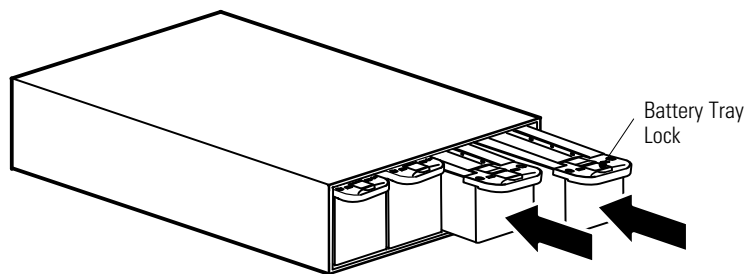

Figure 12. Installing the Battery Trays
3. Slide the battery trays into the cabinet (see Figure 12). Push each tray in until the battery tray lock on the handle catches to lock the tray in place.